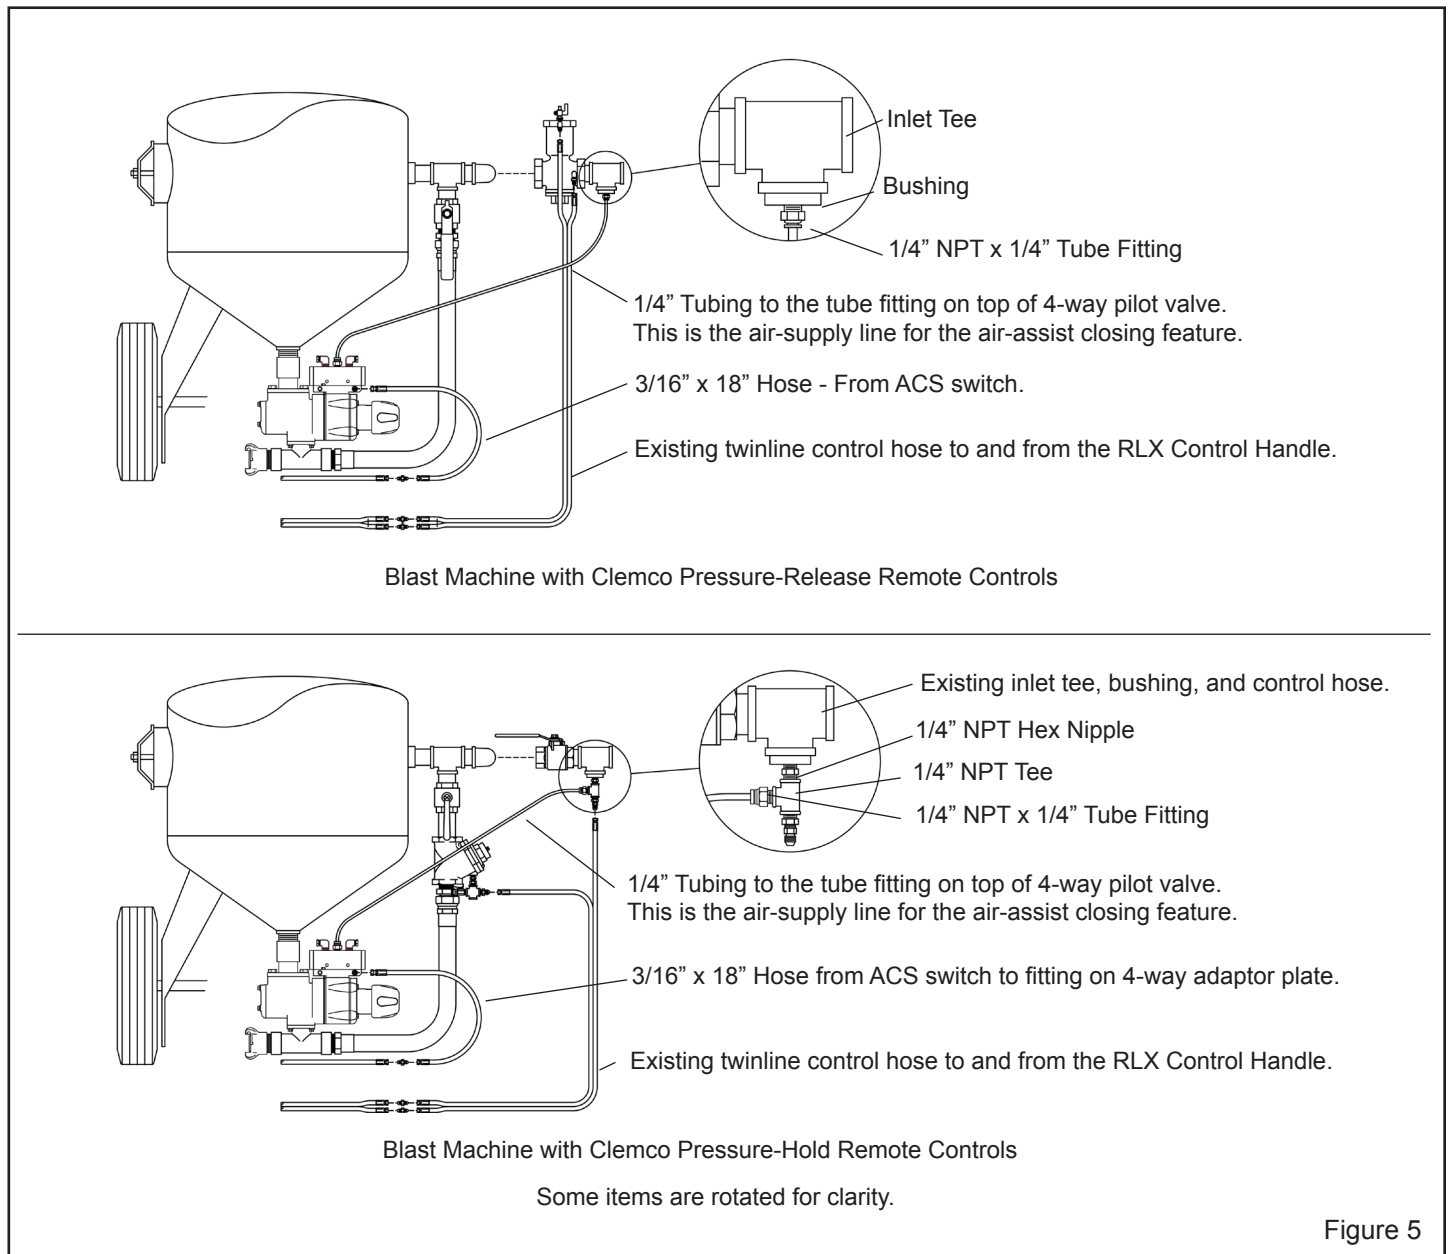

Figure 5
2.4 Connect Control Hoses – Figure 5
2.4.1 The GritWizard Valve uses compressed air to assist in closing the valve. A separate air line, upstream of the inlet valve, is required to supply air to the 4-way pilot valve, as shown in Figure 5.
- The upper illustration in Figure 5 shows connections for a pressure-release remote control system.
2.4.2 Refer to Figure 5 and assemble a tee, that is no smaller than the inlet valve, and fittings, as shown. The necessary fittings come with field-installed retrofit kits. Clemco pressure-hold systems already include a
tee. Note that the illustrations in Figure 5 are typical and shown for reference; connect control fittings and hose(s) in the same manner as was used with the previous metering valve, and as noted in Paragraph 2.1.4. If necessary, use the old fittings from the valve the GW is replacing.